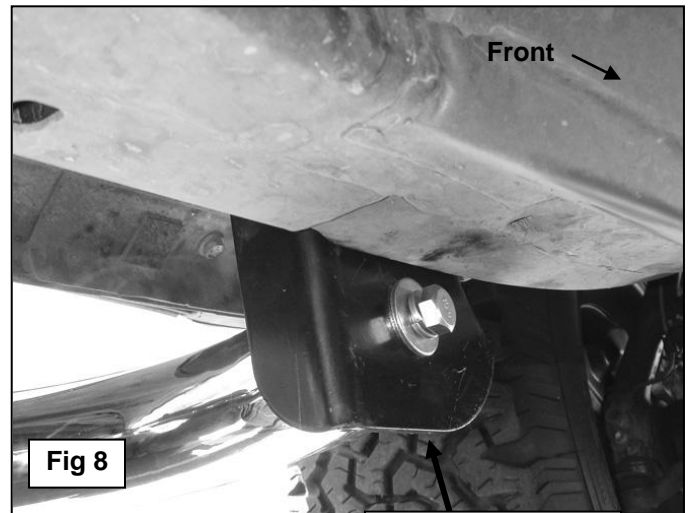

Fig 8
5. Carefully unwrap the driver Sidebar. Bolt the Sidebar to the Mounting Brackets using the included (2) 1/2" x 2" Hex Bolts, (2) 1/2" Lock Washers and (2) 1/2" Flat Washers, **(Figure 8)**. **IMPORTANT:** Curved end of Sidebar will bolt to front Bracket and 90-degree bent end will bolt to rear Bracket. Leave loose at this time.